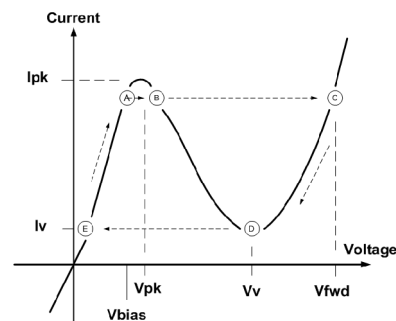

Fig. 9 Tunnel Diode I - V Curve
The Tunnel Diode (TD) is a very specialized diode with a highly unusual I-V characteristic. See Figure 9. The "tunneling" phenomenon was discovered in the early 60s. Tunnel diodes were the first semiconductor device capable of operating as oscillators, amplifiers, and switches at microwave frequencies. By the mid-60s, both Hewlett-Packard and Tektronix had introduced pulse generators capable of risetimes as fast as 25 ps, using germanium tunnel diodes.